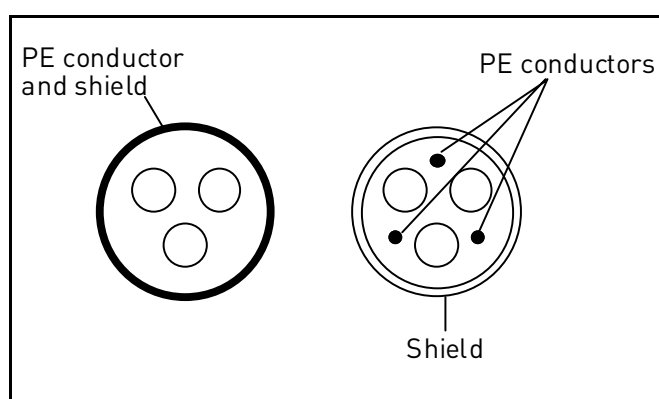

Figure 16.
- 2 = Symmetrical power cable equipped with concentric protection wire and intended for the specific mains voltage. (MCMK or similar recommended). See Figure 16.
- 3 = Symmetrical power cable equipped with compact low-impedance shield and intended for the specific mains voltage. [MCCMK, EMCMK or similar recommended; Recommended cable transfer impedance (1Mhz...30MHz) max. 100mohm/m]. See Figure 16.